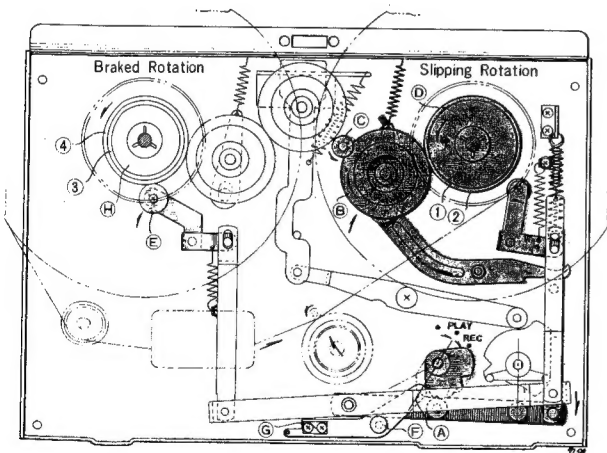

Fig. 2
Turning the RECORD/PLAYBACK LEVER (A) to "PLAY" position causes the pinch wheel to press against the capstan and move the tape at the rated speed. At the same time, Idler (B) moves between Motor Bushing (C) and the Take-Up Reel Spindle (D) to transmit the motor rotation to (D) so that the tape is moved and wound on the take-up reel. The Take-up Reel Spindle Base, composed of two plastic wheels (discs) (1 and 2) with a felt clutch between, is rotated from below by the idler. Tape-winding friction is adjusted by the slipping of the felt and maintains rated winding of the tape. The Supply Reel Spindle (H) has a Brake Roller (E) contacting plastic wheel (disc) (4) from below which provides appropriate back tension by the slipping of the felt clutch to the rotation of the Pulley (3) above. To prevent accidental erasure, the Record Safety Button (F) must be depressed before the RECORD/PLAYBACK LEVER can be moved to the "REC" position. Safety device (G) is depressed to operate the recording mechanism. (See figure 2)